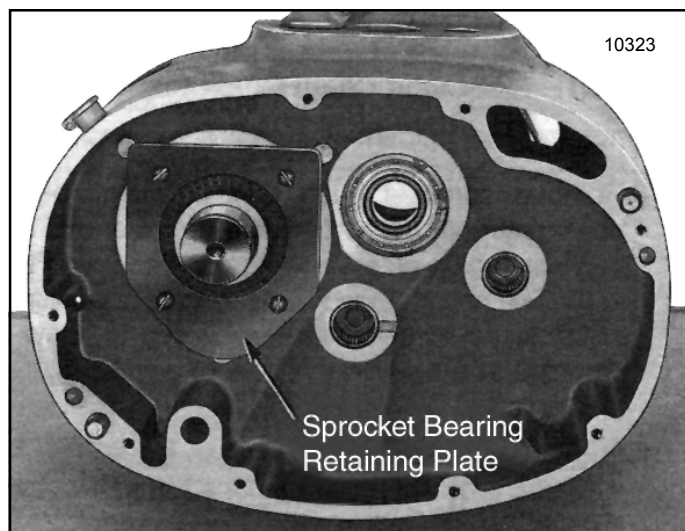

Figure 7-10. View of Sprocket Bearing Retaining Plate
- (2) Unscrew four fillister head machine screws securing sprocket bearing retaining plate and remove plate (Figure 7-10). Remove and discard ring gasket from groove around bearing or remove seal disk.